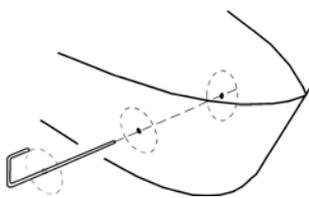

Fig. 16
- Pass the instrument to draw the profile of the tunnel (not supplied) through the holes drilled and draw the external diameter of the tunnel on the hull (Fig. 16).